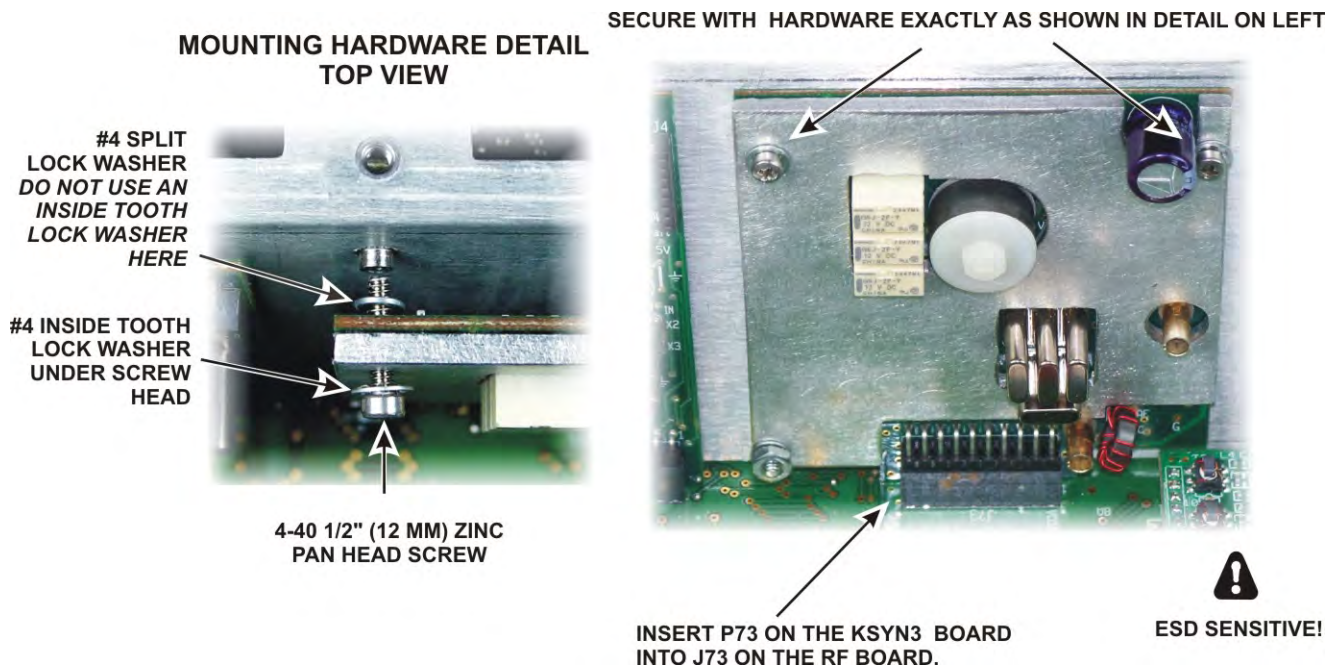

Figure 74. Installing the KSYN3 Board.
□ Install the KSYN3 board on the back side of the front panel shield using the hardware exactly as shown in Figure 74. This is most easily done as follows: